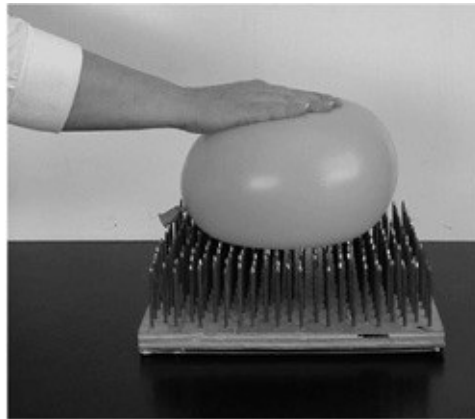

Figure 42-2 *The force is spread out over a large number of nails.*
2. Press (another) balloon in the center of the bed (Figure 42-2).